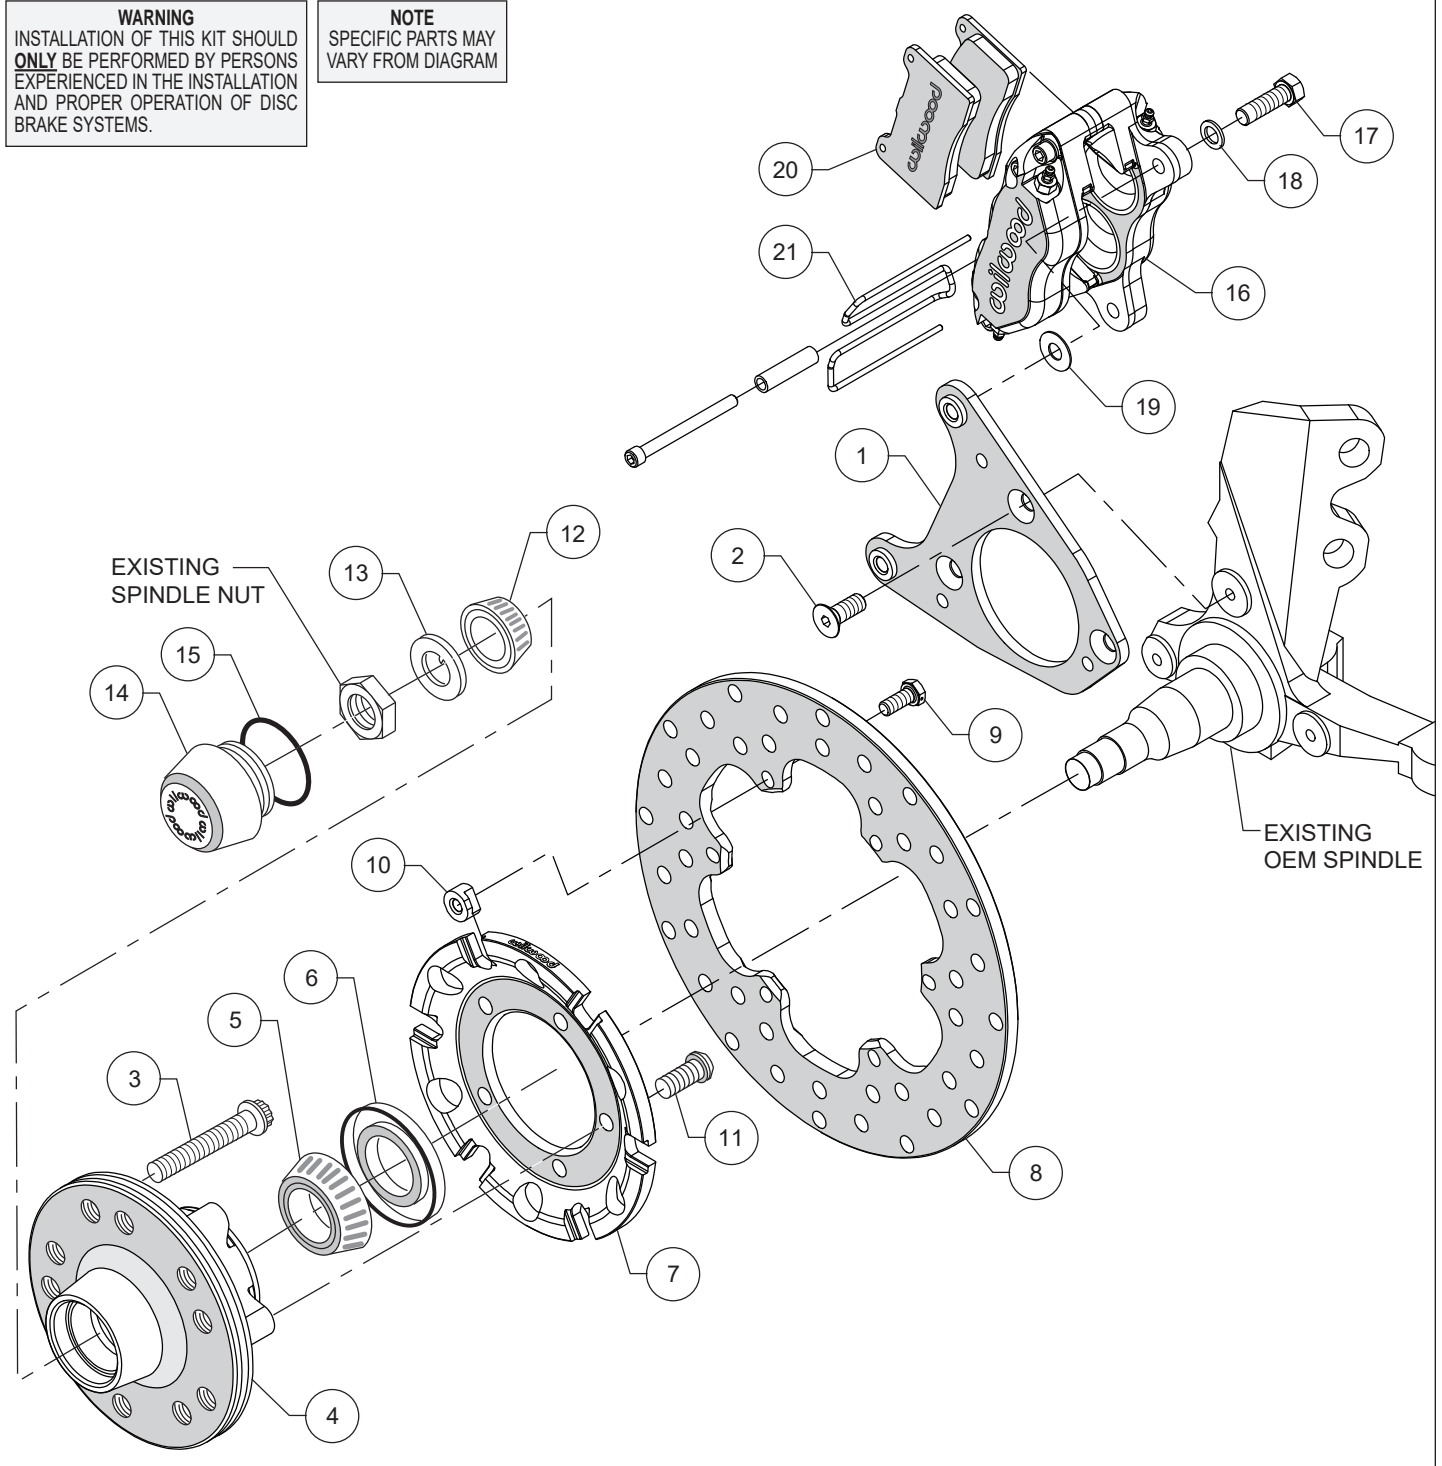
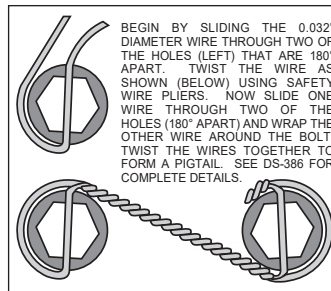
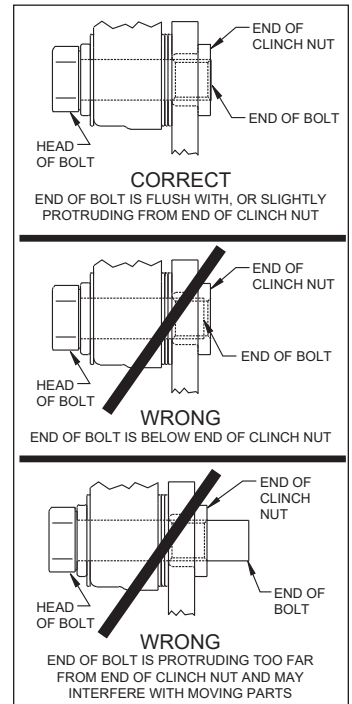

Figure 1. Typical Installation Configuration
Figure 3. Safety Wire Diagram
Figure 4. Clinch Nut Engagement Diagram
Assembly Instructions (numbers in parenthesis refer to the parts list, on the preceding page and Figure 1): **CAUTION:** All mounting bolts must fully engage clinch nuts. Be sure to check that all bolts are either flush or protruding through flanged side of clinch nut after shimming, Figure 4.
- Orient the caliper mounting bracket (1) as shown in Figure 1 and Photo 2. Attach using bolts (2), Figure 1. Temporarily tighten the mounting bolts. Ensure that the flanged heads of the clinch nuts in the bracket are facing outboard, Photo 2. **NOTE:** The bracket must fit squarely against the mounting points on the spindle. Inspect for interference from casting irregularities, machining ridges, burrs, etc. Remove bolts one at a time, apply red *Loctite*® 271 to threads and torque to 40 ft-lbs.
- Install wheel studs (3) into the hub (4), Photo 3. Torque to 77 ft-lb. **NOTE:** There are two five lug patterns in the hub (5 x 4.50 and 5 x 4.75). Ensure the correct hub stud pattern is being used to fit the wheel application.
- Pack the large inner bearing cone (5) with high temperature disc brake bearing grease (available from your local auto parts store) and install into the backside of the hub (4), Photo 4.
- Install the grease seal (6) by pressing into the backside of the hub (4), flush with the end of the hub, Photo 4.
- Orient the rotor (8) and the rotor adapter (7) as shown in Figure 1 and Photo 5. Attach the rotor to the adapter using bolts (9) and T-nuts (10). Using an alternating sequence, apply red *Loctite*® 271 to the threads, and torque to 220 in-lb. Safety wire bolts using standard 0.032 inch diameter stainless steel safety wire as shown in Figure 3. Refer to Wilwood's data sheet DS-386 (available at www.wilwood.com/Pdf/DataSheets/ds386.pdf) for complete safety wire installation instructions.
- Mount the adapter/rotor assembly (7 and 8) to the hub (4) using bolts (11), as shown in Figure 1 and Photo 6. Using an alternating sequence, apply red *Loctite*® 271 to the threads and torque to 45 ft-lb.
- Pack the small outer bearing cone (12) with high temperature disc brake bearing grease and install into hub (4). Slide the hub/rotor assembly onto the spindle. Secure using spindle washer (13) and OEM spindle nut, Photo 7. Adjust bearings per OEM specifications. Install saved OEM nut lock (if any) and a new cotter pin (not included).
- Screw dust cap (14) into hub (4), Photo 8. Friction created by the o-ring (15) on the dust cap keeps it from unscrewing. **NOTE:** The O.D. of the existing OEM spindle washer may be larger than the I.D. of the dust cap not allowing it to seat against the hub face. Therefore, use the spindle washer (13) supplied with the kit instead of the OEM washer.
- NOTE:** Please reference the caution statement at the beginning of the assembly instructions. Mount the caliper (16) onto the caliper mounting bracket (1) using bolts (17) and washers (18), as shown in Figure 1. Initially place one .035" thick shim (19) on each bolt between the caliper and the bracket, Photo 9. Temporarily tighten the mounting bolts and view the rotor (8) through the top opening of the caliper. The rotor should be centered in the caliper, Photo 10. If not, adjust by adding or subtracting shims (19) between the bracket and the caliper. Always use the same amount of shims on each of the two mounting bolts. **NOTE:** The end of each bolt must be flush with or slightly protruding from the head of the clinch nut, as shown in Figure 4. If necessary place spare shims (19) between washer (18) and caliper mounting ear to achieve the proper clinch nut engagement. Once the caliper alignment and clinch nut engagement are correct, remove the bolts one at a time, apply red *Loctite*® 271 to bolt threads, and torque to 40 ft-lb. For an added measure of security, the bolts may be safety wired using standard 0.032 inch diameter stainless steel safety wire as shown in Figure 3. Refer to Wilwood's data sheet DS-386 (available at www.wilwood.com/Pdf/DataSheets/ds386.pdf) for complete safety wire installation instructions.
- Install the disc brake pads (20) into the caliper, with the friction material facing the rotor (8), Photo 11, and secure in place using pad retainer clip (21), Photo 12.